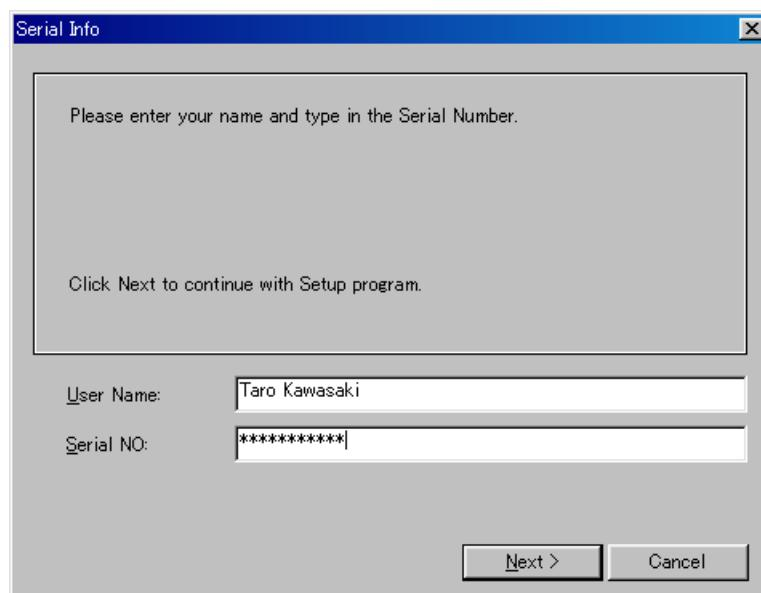

Fig. 4 User Information Registration / Authentication (Sample)
(4) Next the Serial Information screen shown in Fig. 4 appears.